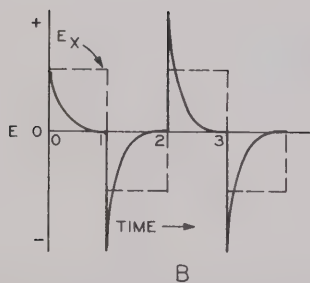

Figure 11
For any single alternation of the applied rectangular voltage in Figure 11, conditions are the same as though a direct voltage were applied to the RC or RL circuit. The first alternation of E_x causes current and voltage changes like those which occur when a dc voltage is applied with no charge on the capacitor or no magnetic field around the inductor. The remaining alternations produce actions like those that take place when the capacitor is charged, or the inductor has a field built up, at the time that the dc voltage is applied.
The solid line curves of Figure 11 show that neither the currents through nor the voltages across the components have the same waveform as the applied voltage. In the RC circuit, a period of time is required for the capacitor voltage to reach the E_x VOLTAGE each time E_x changes polarity. In the RL circuit, the CURRENT requires a period of time to rise to maximum after each change in E_x polarity. The solid line curve of Figure 11A indicates either the gradual rise of capacitor voltage or RL circuit current.
22. Explain the waveshapes of Figure 11 with respect to the circuit of Figure 10.
24. In an RL circuit, when a rectangular source voltage is applied, the waveform of Figure 11_____ represents the voltage across the inductor and the waveform of Figure 11_____ represents the voltage across the resistor.